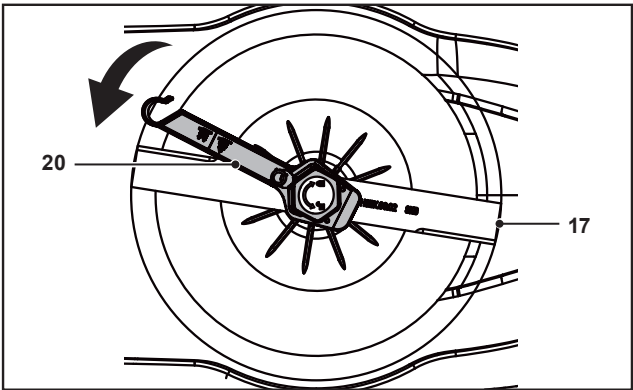

Fig. 14
- 2. Loosen the blade bolt on the cutting blade (17) with the spanner (20) (Fig. 14).